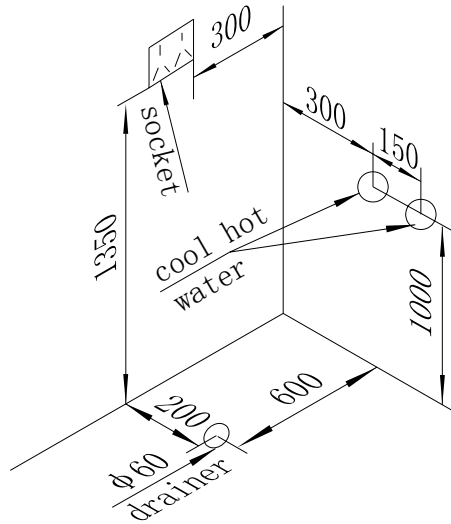

Fig. 1
1. Install inlet tubes for cool and hot water, and install the drain pipe, three-hole outlets etc at scheduled place. Fig. 1.
the steam pot to the outlet. (See the waterway sketch and fig.1)